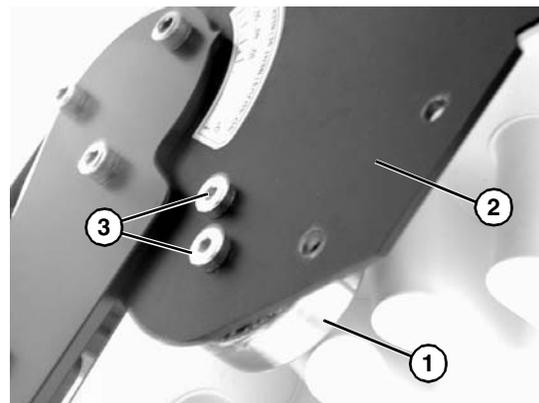

Figure 33
- If equipped, install return roller bearing (**Figure 33, item 1**) into knuckle plate (**Figure 33, item 2**) using screws (**Figure 33, item 3**).